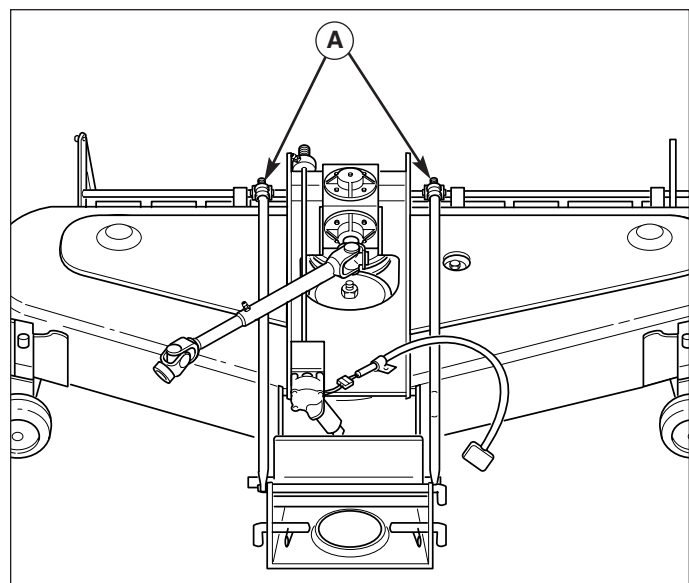

Figure 48. Front to Back Leveling
3. Loosen the two rear jam nuts on both both arm assemblies (see Figure 48). Adjust the jam nuts on both arms until the mower deck is level or the front is 1/8" to 1/4" higher.